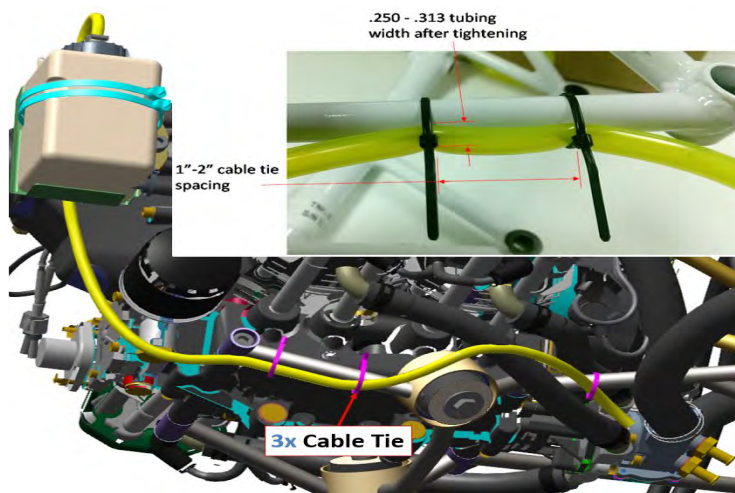

FIGURE 16-43
- c. Secure the Tygon tubing to the engine mount as shown in shown in Figure 16-43 using three TY23MX cable ties. The cable ties should be spaced 1-2 inches apart and tightened until tubing width measures .250-.313 as shown. Before tightening the cable ties, ensure that the tubing does not have enough slack to contact any rotating hardware such as the cooling fan or prop flange.